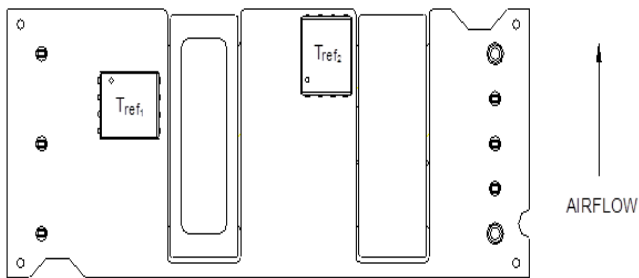
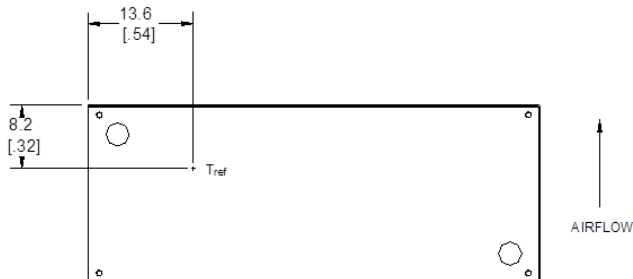

Figure 13.  $T_{ref}$  Temperature Measurement Locations for Open Frame Module.
Figure 14.  $T_{ref}$  Temperature Measurement Location for Module with Heatplate.
To provide protection under certain fault conditions, the unit is equipped with a thermal shutdown circuit. The unit will shutdown if the thermal reference point,  $T_{ref}$ , exceed 135 °C (Figure 13, typical) or 120 °C (Figure 14, typical), but the thermal shutdown is not intended as a guarantee that the unit will survive temperatures beyond its rating. The module will automatically restart upon cool-down to a safe temperature.
The thermal reference points,  $T_{ref1}$ , and  $T_{ref2}$  used in the specifications for open frame modules are shown in Figure 13. For reliable operation these temperatures should not exceed 124 °C & 121 °C respectively
The thermal reference point,  $T_{ref}$ , used in the specifications for modules with heatplate is shown in Figure 14. For reliable operation this temperature should not exceed 98 °C.